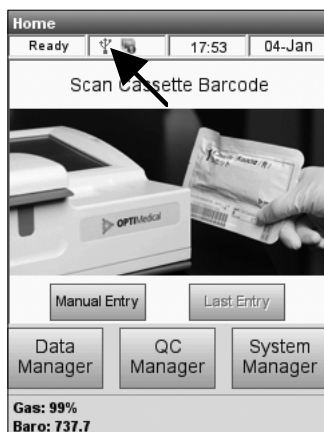

Fig. 3-100 Remove USB stick
3. Once the ready screen is displayed, press the USB icon on the status bar to safely remove the USB memory stick (Fig. 3-100).